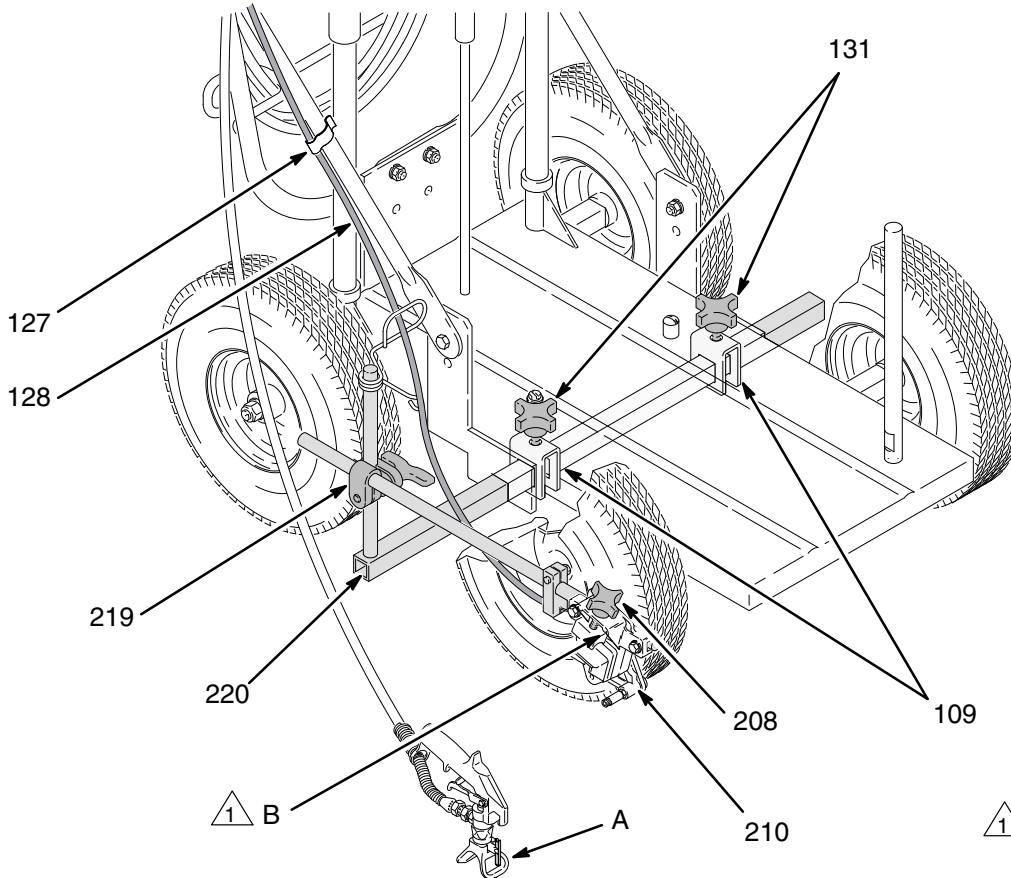

Fig. 22
To vertically position the gun. See Fig. 22.
See Fig. 22.
- Disengage the trigger cable (128) and engage the gun trigger safety latch. See page 7.
- Loosen the gun arm clamp (219) and swing the arm (B) back near the rear tire. Position the arm so the tip guard aligns with the back axle of the unit. Retighten the clamp. See Fig. 22 on page 20.
- Extend the carriage bar (220) so you can see the line you are painting and avoid running over it. See Fig. 22 on page 20.
Gun grease zerk (B)	Grease weekly using a grease gun. This purges pivot area of paint buildup. See Fig. 22.